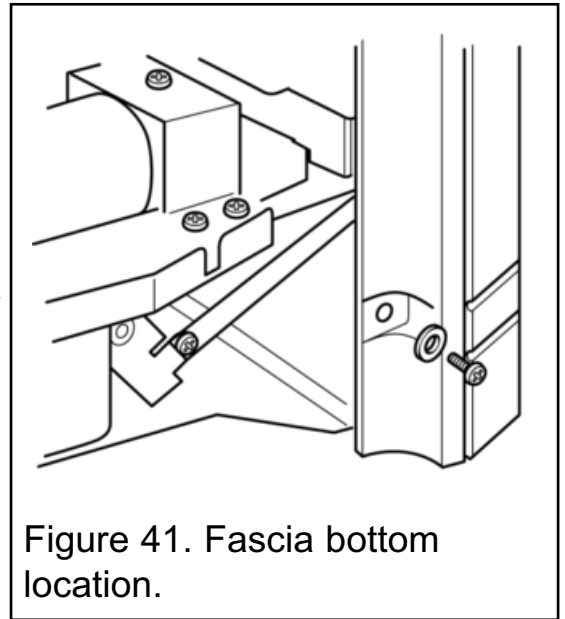

Figure 41. Fascia bottom location.
- ii)* Remove the two screws (and washers where fitted) securing the bottom of the fascia to the sides of the convection box (See figure 41).